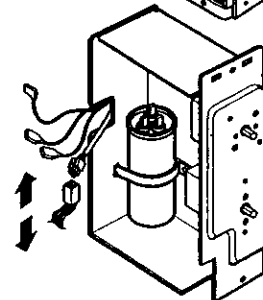

Figure 5
6. Disconnect one housing terminal and 3 wires for the fan motor and compressor. (See Figure 5)